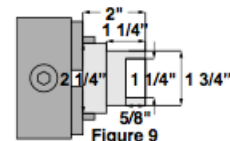

Figure 9
31. See Figure 9. Mount a 2-1/4" diameter by 2" thick waste block in 4 jaw chuck.